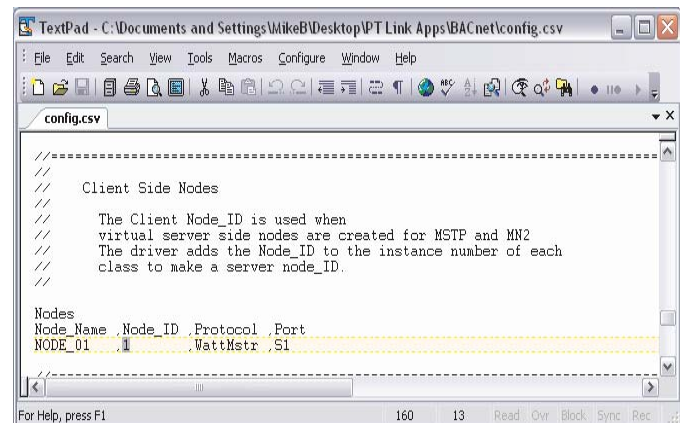

Figure 20: Changing the Node ID in Notepad
14.) The last change you may need to make is the Node_ID under 'Client Side Nodes' which is the BACnet Device Instance Number (**Figure 20**). The default is 1. You can obtain this information from your BAS Integrator.